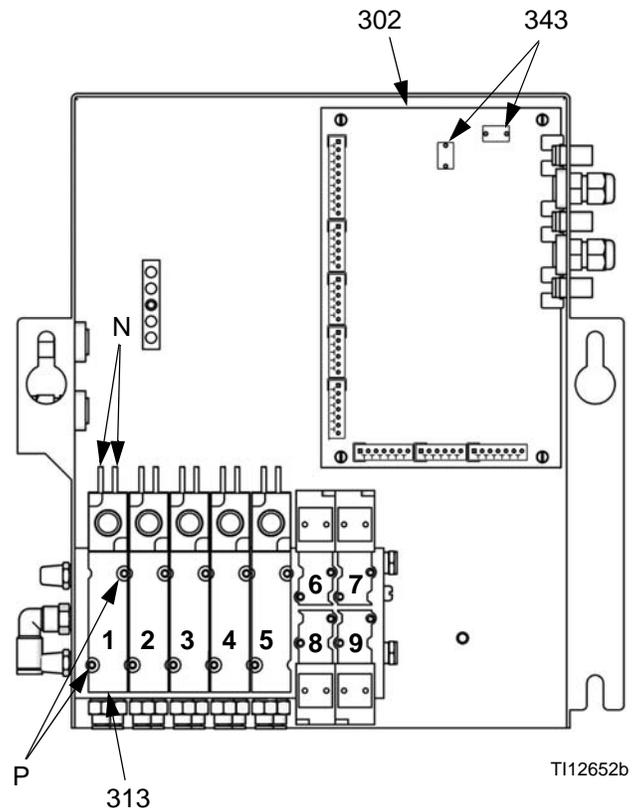

FIG. 22: Replacing Solenoids and Fuse
3. Unscrew 2 screws (P) and remove solenoid (313). FIG. 22.
4. Install new solenoid (313).
5. Connect 2 wires (N) to control board (302). Solenoid wires are polarized (red +, black -). Refer to **System Electrical Schematic**, page 35.
6. Replace the cover (322).
2. Locate fuse F1 or F2 on the control board. See FIG. 22. Remove the screw and metal strap.
4. Install the new fuse (343).
5. Replace the cover (322).